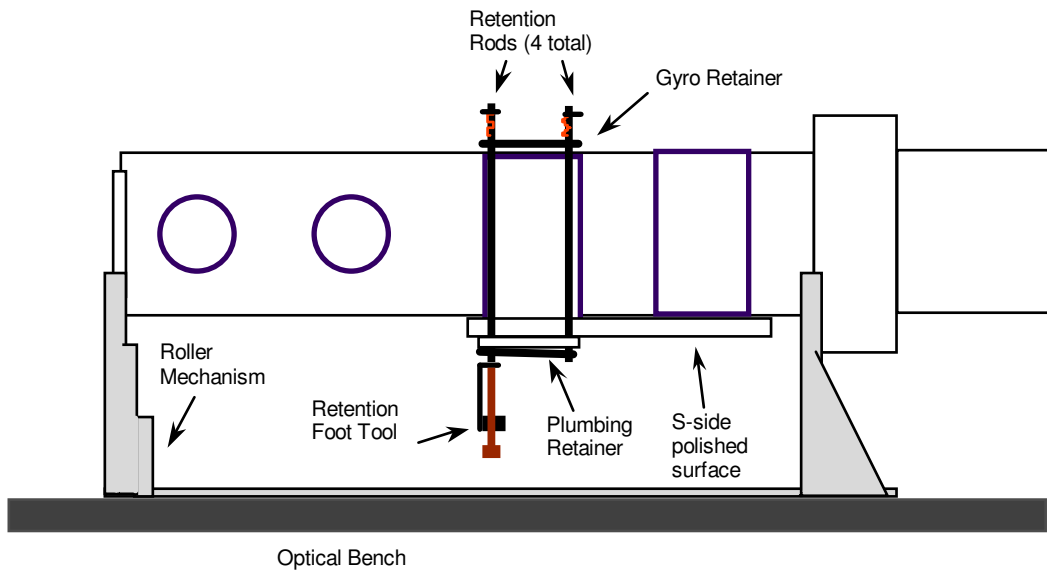

Figure 8. Installation of Foot Tool (pictured for Gyro 2)
9.1.10 While one person holds the IP/S/G unit against the QB, a second person installs a Retention Foot Tool (P/N 113511) on two diagonally opposite Retention rods . See Figure 8. To accomplish this, the rod will need to be pushed through the IP hole, the snouted washer, and the Plumbing Retainer, since in equilibrium the end of the rod does not stick through these. The screw tip of the Foot Tool fits into the hole in the middle of the Retention Rod. Tighten to secure the Tool on the rod. Gently push the rod down from the R-side while taking up the slack on the Foot by tightening the nut. The IP/S/G/ Plumbing Retainer is now secure against the QB. Extend the rods so that the groove will protrude far enough so that it will protrude about .050 beyond the three bellevilles the plumbing retainer (or Retainer Washer)